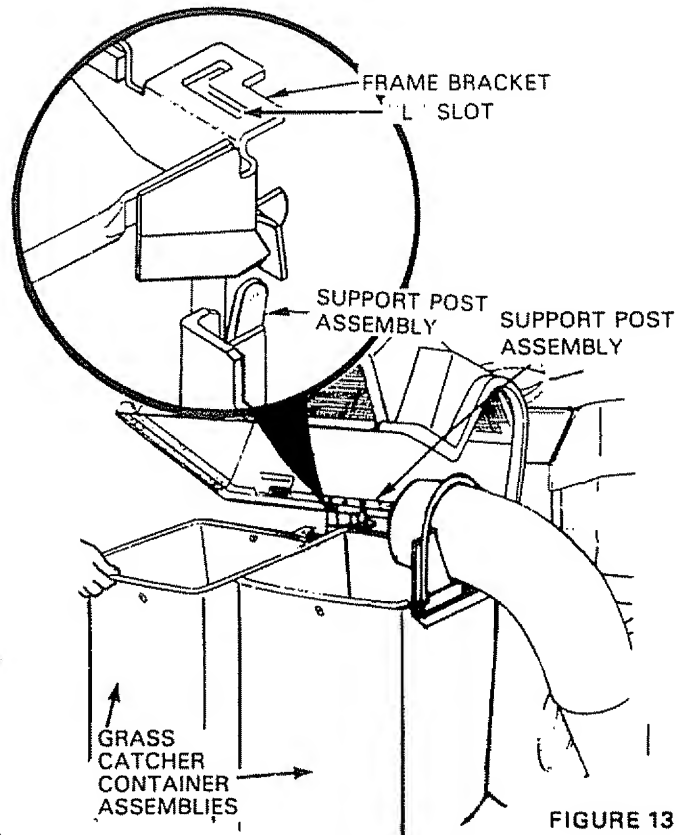

FIGURE 13
12. Position the grass catcher container assemblies on to the support posts through the "L" slots (Fig. 13 - Inset)